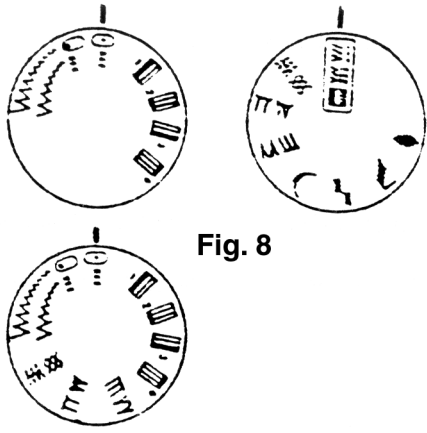

Fig. 8
- Set control knob to straight stitch and "middle" needle position (fig. 8).